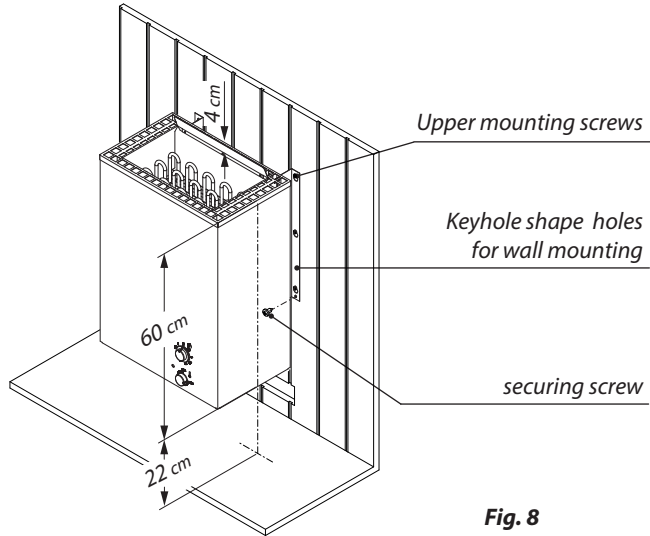

Fig. 8
- Now you can hook the keyholes of the sauna heater onto the screws that are screwed into the cabin wall and then secure on the wall fixtures with the two locking screws. (Fig. 8).